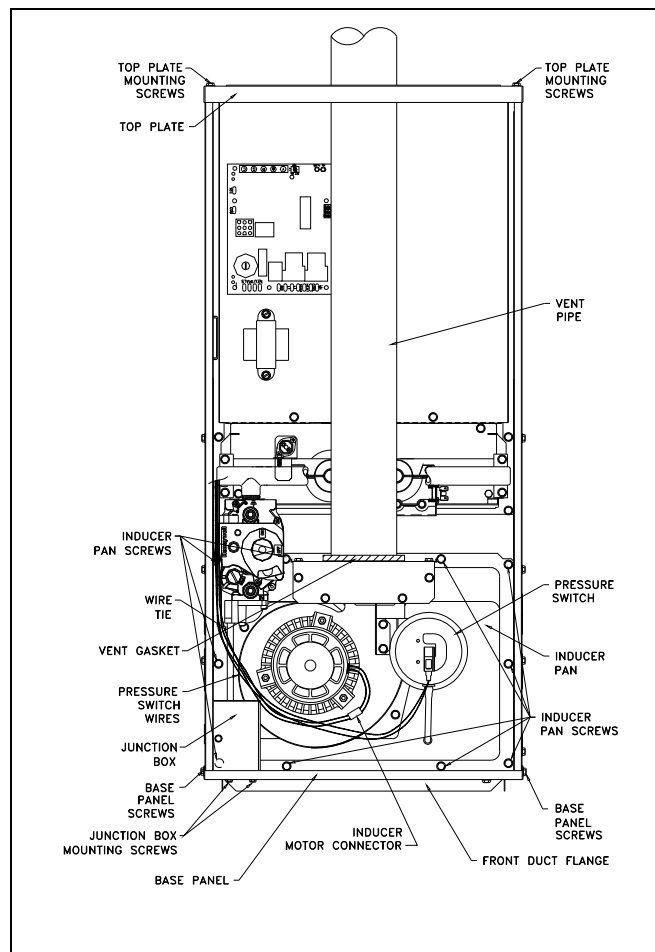

Figure 5. Downflow Configuration.
5. Rotate inducer/pan assembly 180 degrees as shown in Figure 5. Line up mounting holes and replace the ten screws in inducer pan.
- a) Purple wire (#6) to pressure switch common (C) terminal.
- b) Blue wire (#5) to pressure switch normally open (NO) terminal.